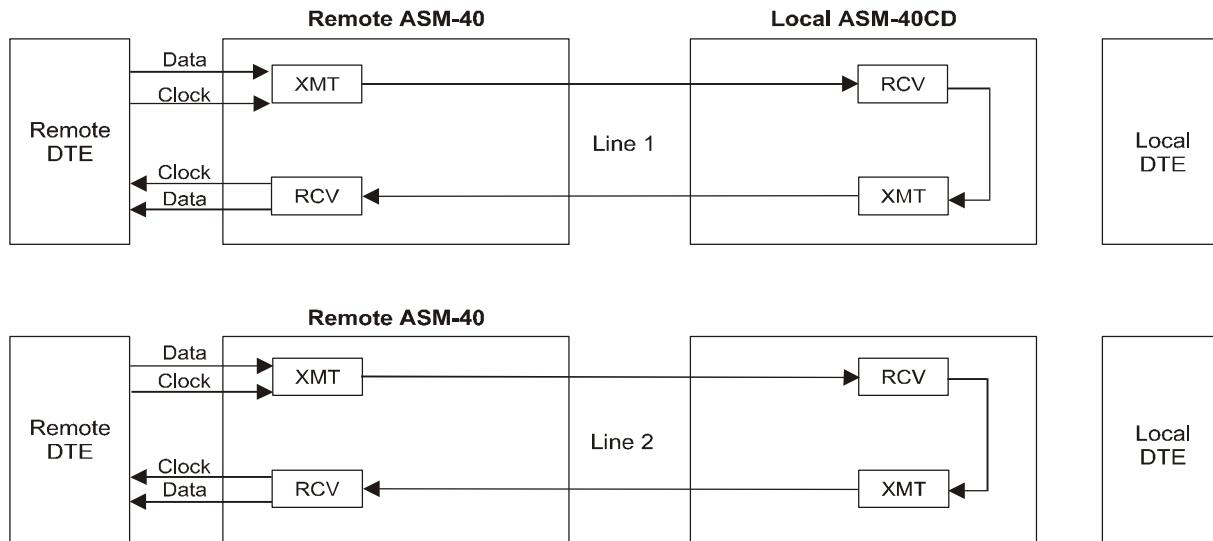

Figure 4-3. ASM-40CD Local Digital Loopback (DIG)
- **Local digital loopback** – The digital receive signal is looped back in the local ASM-40CD towards the line. The loopback tests the local ASM-40CD, the remote DTE and the line between them (see *Figure 4-3*).
Local digital loopback test (DIG) determines the performance of both local ASM-40CD and remote ASM-40, as well as the line link. The DIG loopback sets a loop at the local modem from the terminal that is completed through the remote unit (see Figure 4-3). The local digital loopback path is similar to that of the remote digital loopback initiated from the remote unit.